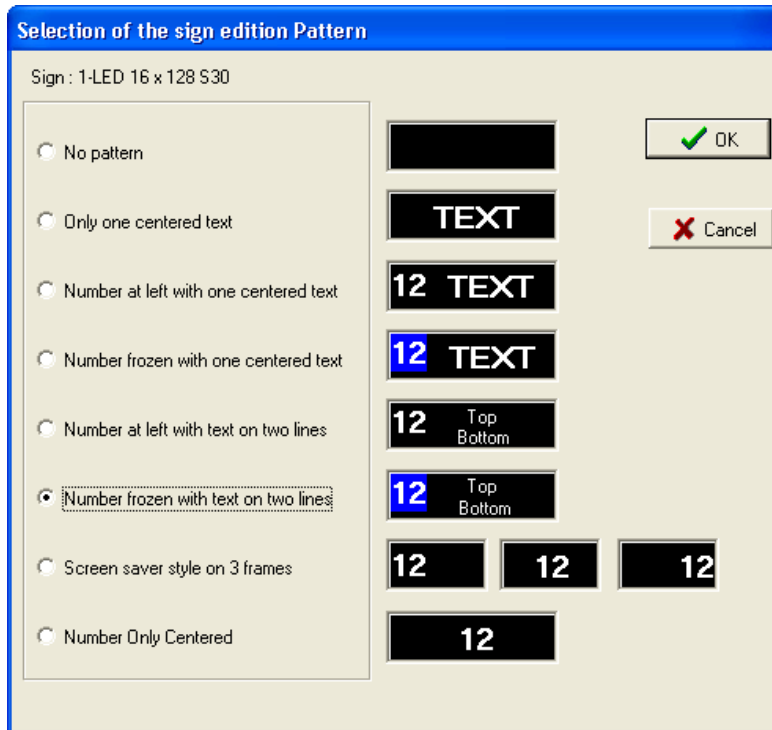

Figure 14: Edit Pattern
1. You access the following "Display" window from the menu "Configuration | Type of display". This screen shot shows the different types of sign available at Axion Technologies. The "Edit Pattern" button allows to define the automatic edition pattern of a sign. Select a sign in the list and click "Edit Pattern". The window shown in Figure 14 appears. Select the automatic pattern you wish to apply to this specific sign.